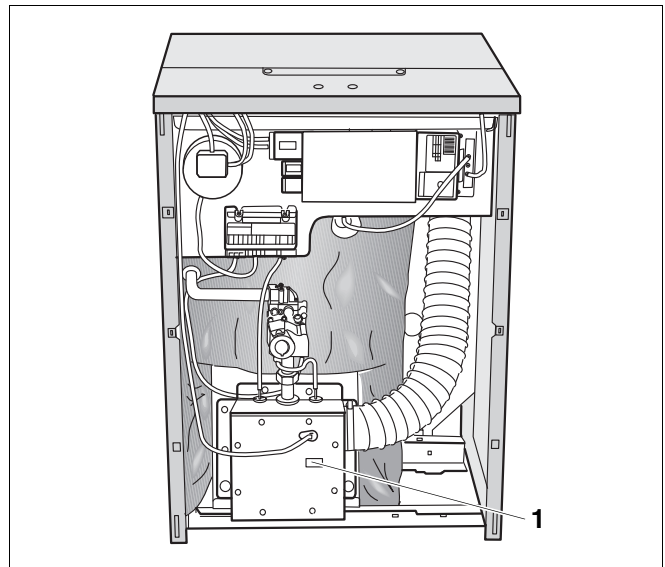
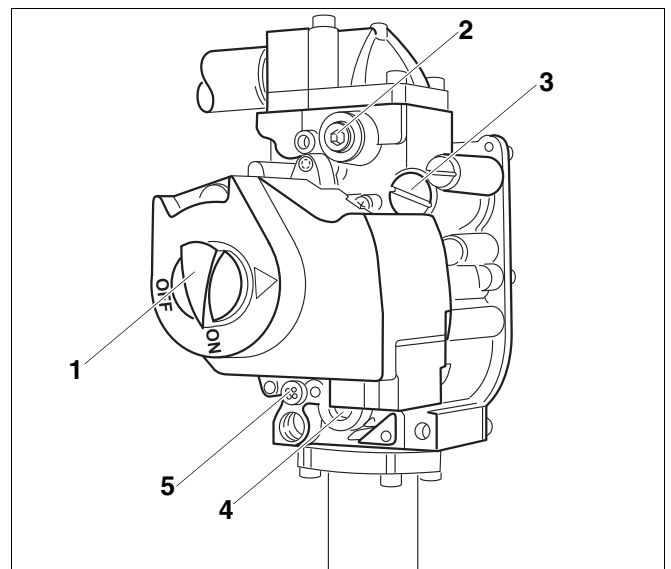

Fig. 39 Front view
Fig. 40 Gas valve
13. Check manifold pressure. The manifold pressure must be set in accordance with the values in → Tab. 13. To set the manifold pressure the cover (→ Fig. 40) on the gas valve must be removed. Turn the adjustment screw clockwise to increase the pressure and counterclockwise to reduce the pressure. This setting must be adjusted while the boiler is operating.
14. Record the set value in the commissioning protocol of the installation and maintenance instructions and screw the safety screw (→ Fig. 40, page 41) into the gas valve again.
- 15. Observe ignition flame through the sight glass (→ Fig. 39, page 40) in the burner housing.
The adjustment screw is behind the ignition gas pressure adjustment safety screw (→ Fig. 40, page 41).
- 18. Remove safety screw for pilot ignition pressure setting (→ Fig. 40, page 41). Turn the inner adjustment screw clockwise to reduce the ignition flame and counterclockwise to enlarge the ignition flame.
- 19. After adjustment tighten the ignition gas pressure adjustment safety screw (→ Fig. 40, page 41) again.
- 20. Observe main burner flame through the sight glass (→ Fig. 39, page 40) in the burner housing. The flame must have a steady and fixed contour and generally has a bluish color. If the main burner flame meets the requirements, proceed with step 21. If the main burner flame is too weak or is yellow or goes out, turn the ON/OFF switch (→ Fig. 40, page 41) on the gas valve clockwise to OFF. Close the gas valve and disconnect the heating system from the power supply and contact the customer service technician or the gas company.